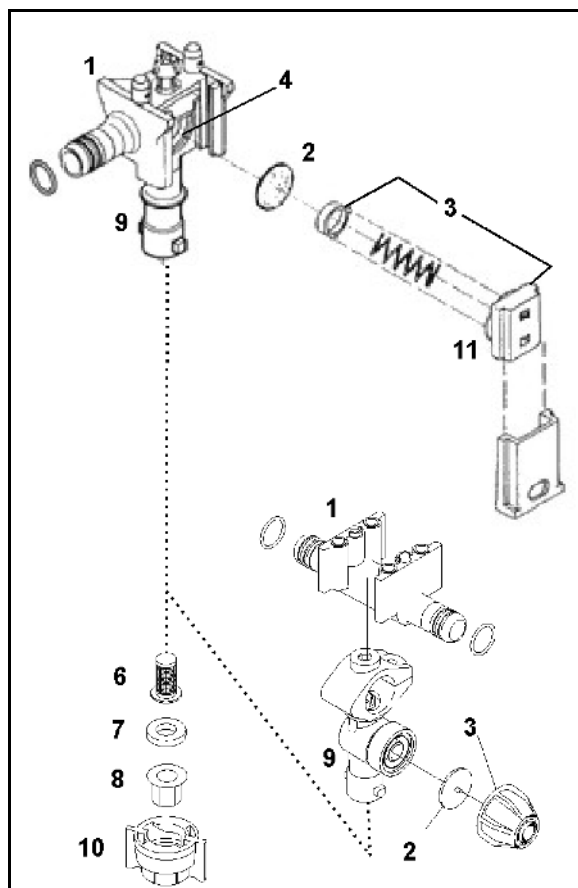

Fig. 85
Ultrasound sensors (Fig. 85/1) detect the distance to the ground or the crop. If the height deviates from the desired measurement on one side, the distance control regulates the tilt adjustment in order to adjust the height. If the terrain rises on both sides, the height adjustment raises the entire boom.
- see Fig. 85